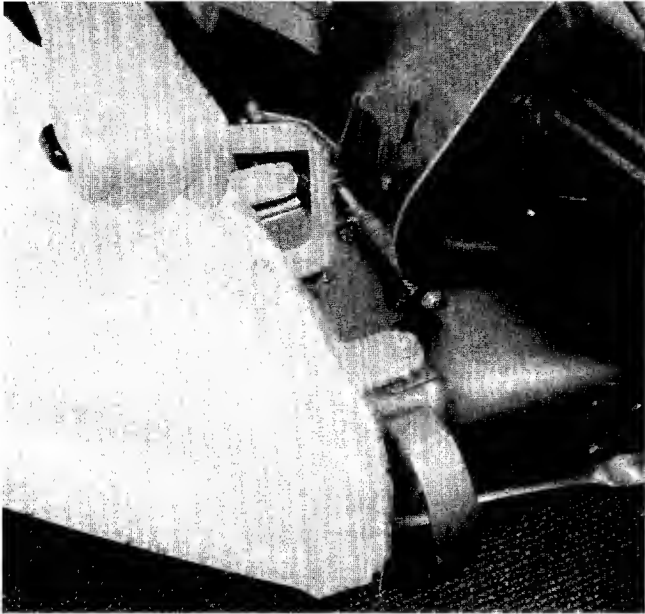

FIGURE 5. ATTACHING THE GRASS CATCHER TO THE DECK.
14. Lift up the chute deflector and attach the grass catcher assembly to the adapter on the mower deck. See figure 5.
15. Swing the upper holding arm over the center lifting strap on the grass bag and assemble the hook bolt (27) through the upper holding arm (23) and fasten it with the elastic locknut (28) using the hole that lines up the best.